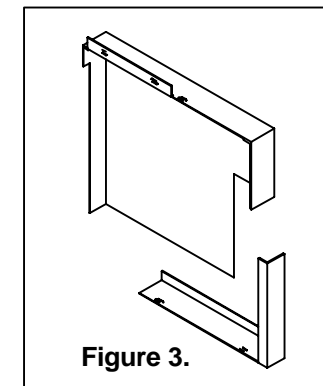

Figure 3.
2. Remove the Bypass Pulley Top Cover (4 Allen Head Cap screws and 4 Lock Washers) and the Bypass Pulley Bottom Cover (2 Allen Head Cap screws and 2 Lock Washers) (Figure 3).